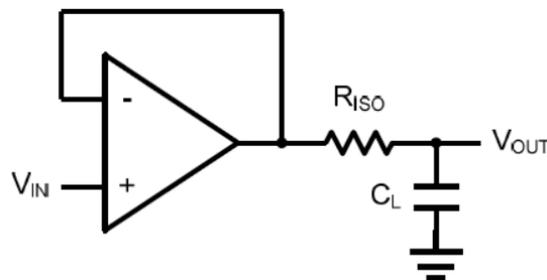
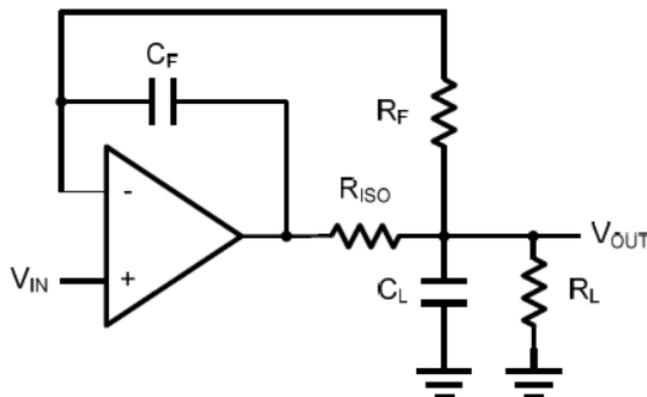

Figure 1. Indirectly Driving a Capacitive Load Using Isolation Resistor
Figure 2. Indirectly Driving a Capacitive Load with DC Accuracy
The AO321V is optimized for bandwidth and speed, not for driving capacitive loads. Output capacitance will create a pole in the amplifier's feedback path, leading to excessive peaking and potential oscillation. If dealing with load capacitance is a requirement of the application, the two strategies to consider are (1) using a small resistor in series with the amplifier's output and the load capacitance and (2) reducing the bandwidth of the amplifier's feedback loop by increasing the overall noise gain. Figure 1. shows a unity gain follower using the series resistor strategy. The resistor isolates the output from the capacitance and, more importantly, creates a zero in the feedback path that compensates for the pole created by the output capacitance.
The circuit in Figure 2 is an improvement to the one in Figure 1. R_F provides the DC accuracy by feed-forward the V_{IN} to R_L . C_F and R_{ISO} serve to counteract the loss of phase margin by feeding the high frequency component of the output signal back to the amplifier's inverting input, thereby preserving the phase margin in the overall feedback loop. Capacitive drive can be increased by increasing the value of C_F . This in turn will slow down the pulse response.